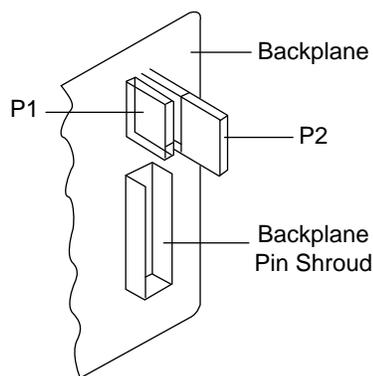

FIGURE 2-5. Backplane Details
2. Carefully insert the CEY1 I/O distribution board (105367791) into the backplane pin shroud as shown in Figure 2-5.
7. Install the HS-Trunk as shown in Figure 2-5 and set the MODE switch to ENABLE.
2. Carefully insert the CEY2 or CEY3 I/O distribution board into the backplane pin shroud as shown in Figure 2-5.
2. Carefully insert the CEY4 (106210404) I/O distribution board into the backplane pin shroud as shown in Figure 2-5.
6. Connect the trunk cable from the DSU to the SAM64. The recommended cable used with the CEY4 I/O distribution board is Comcode 601325426. This "Y" cable can be connected to one or two DSUs using an ED5P055-31, G107, G(P) cable for each DSU.